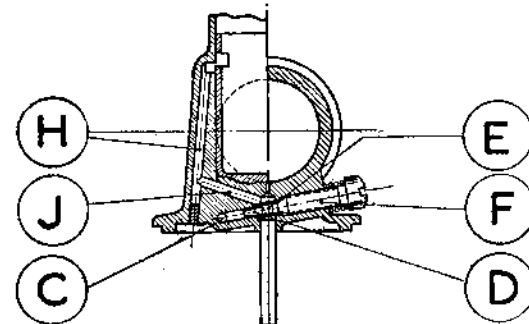

Fig. 3.
At idling speeds, when the throttle is nearly closed, the pilot outlet hole (A) Fig. 3 is subject to the very high engine suction, and petrol is, therefore, drawn from the float chamber through the pilot tube (B), and the pilot outlet hole. The calibrated pilot-jet is contained in the top of the pilot tube. At the same time, a filtered supply of air is drawn from the mouth of the carburettor through passage C, through the variable air-jet D, and is then pre-mixed with the fuel in the small chamber E. The pilot adjuster screw F varies the size of the pilot air jet, and therefore, the pilot mixture strength—to richen mixture, turn screw clockwise.